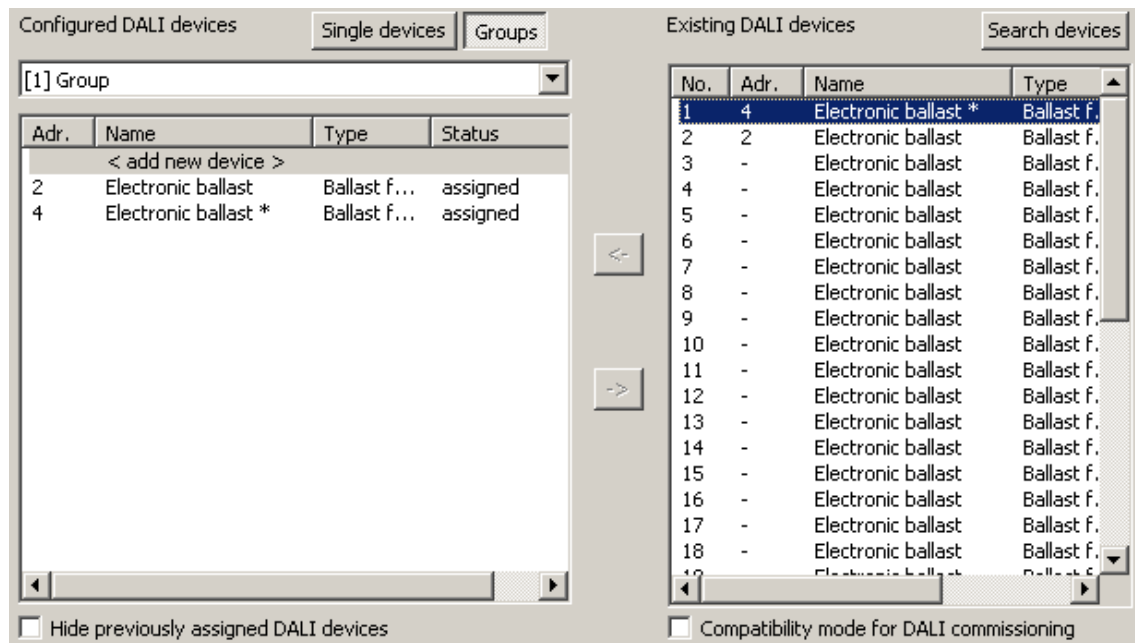

Figure 65: Operating device assigned to a group
- Assign one or more available DALI operation devices to the group, as described above. The assigned operating devices remain visible in the right-hand section and also appear in the left-hand section for the selected group (Figure 65). In the right-hand area, these electronic ballasts receive the short address of the assignment.